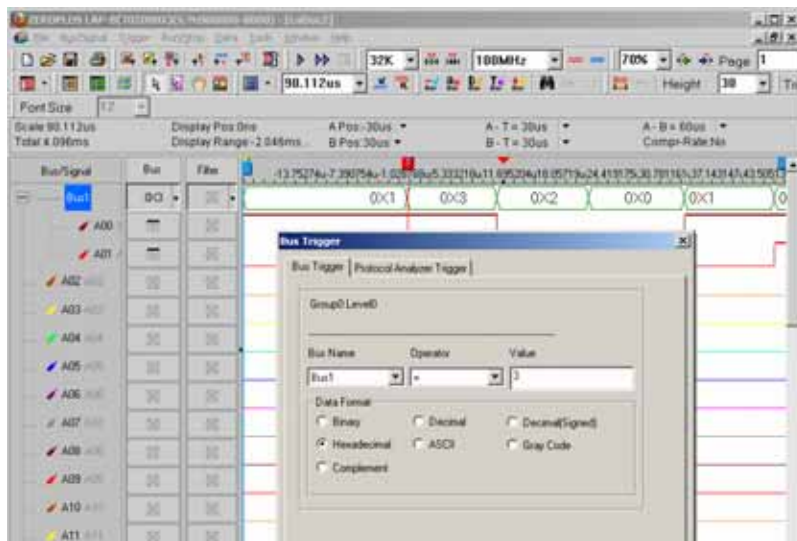

Fig 4-35 – Bus Trigger Setup
Step 4. Click **Run** and activate the signal from the tested board to the system to get the result as shown in Fig 4-35.